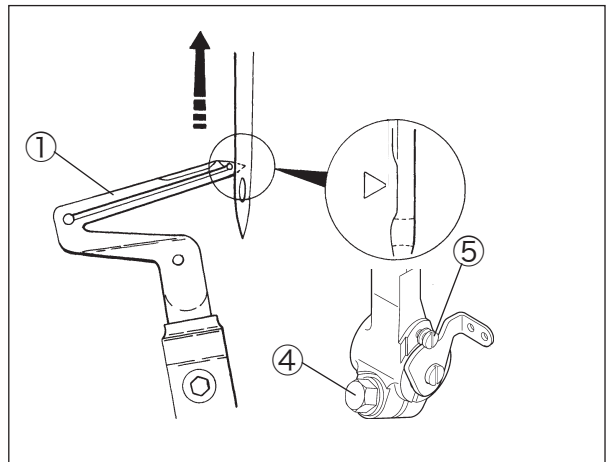

Fig. 2-8
1. After checking the needle heights, tighten screw ② of the needle bar bracket.
3. Once the front-and-rear position of the lower looper has been adjusted, check the distance between the needle and the lower looper, then tighten screw ④ in Fig. 2-8.
4. Apply the liquid packing to the thread of the screw ③ when tightening it.